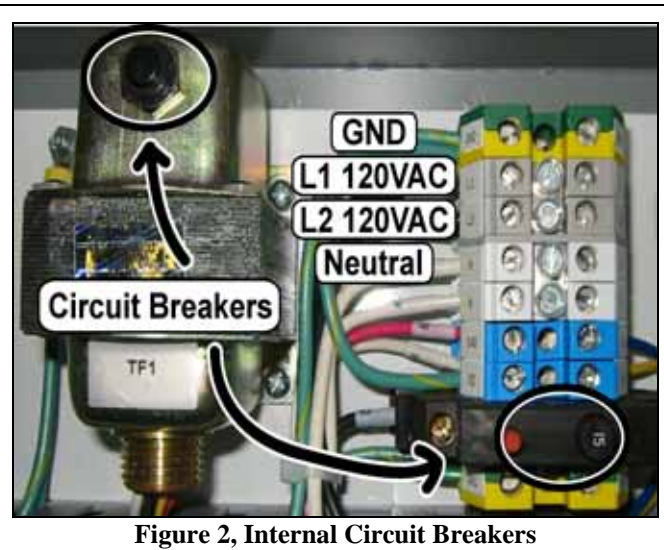

Figure 2, Internal Circuit Breakers
Step 2) Reset both circuit breakers inside the panel, see Figure 2.
- Step 1) There is a GFCI breaker located on the right-side of the keypad panel, also Figure 2 shows two internal breakers which must be reset.